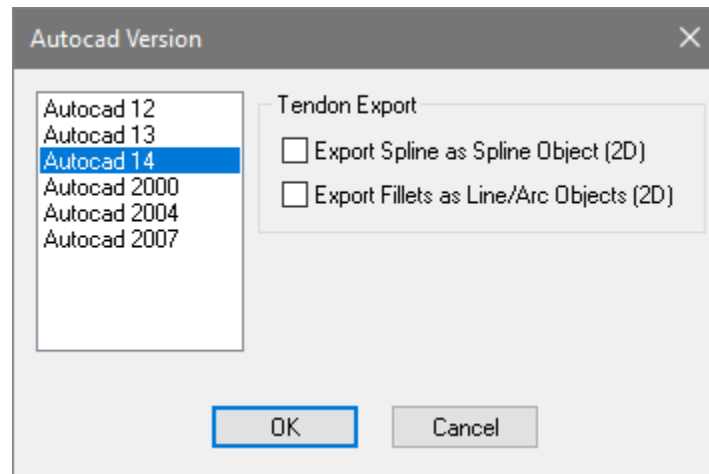

Figure 10-40
- We can now export the rebar to a CAD drawing in order to produce our documentation. Go to *File* → *Export* → *DWG*. This will open the AutoCAD Version window where the user can choose the drawing version as well as, whether they want the drawing to export tendons as Polylines or Splines as shown in **FIGURE 10-40**.